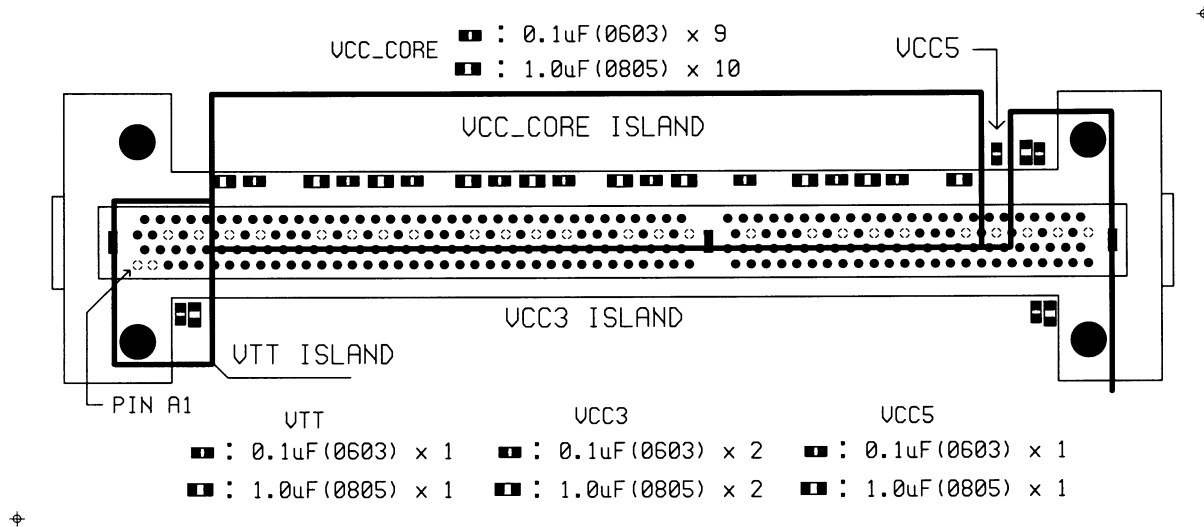

Figure 2-10. Decoupling Capacitor Placement for Single Slot-1 Processor
Figure 2-10 shows a suggested decoupling capacitor placement for the Slot-1 CPU. The isolation region between any two of the VCC_CORE (Core voltage 2.1V~3.3V) island, the VCC3 (I/O voltage 3.3V) island, the VTT (GTL+ termination voltage 1.5V) island and the VCC5 (5V) should be at least 30 mil wide. An island can be an entire power plane or a portion of a power plane that has been divided. The high frequency decoupling capacitors (0.1uF and 1.0uF) should be located as close to the power and ground pins of the Slot-1 as possible.
2. Recommended numbers of the decoupling capacitors for each power plane are shown in Figure 2-10.